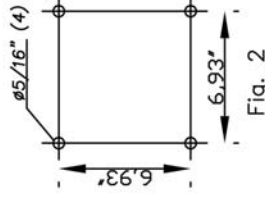

Fig. 2
- Confirm that the ceiling will support the weight of the hood. Drill 4 holes in the ceiling using a 5/6" Bit and insert the plugs (Fig. 2).